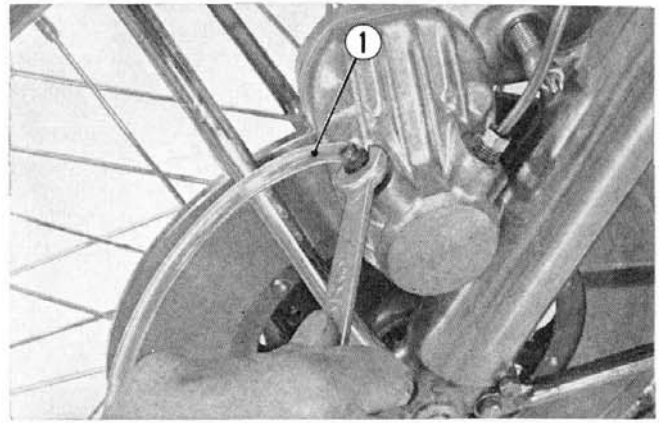

Fig. 14-13 ① Bleeder hose
- Remove the dust cap from the bleeder valve and attach bleeder hose. (Fig. 14-13)